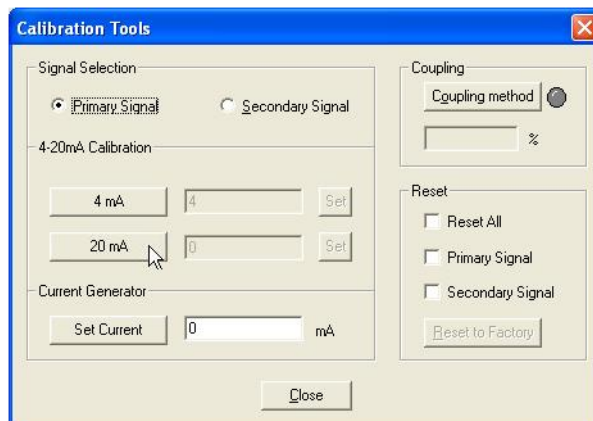

Figure 229 Starting 20 mA Calibration
1. Click on **20mA** (Figure 229).